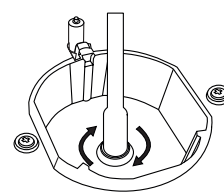

Figure 3
4. Remove injector by turning as shown in figure 3 with screwdriver and replace it with a new one.